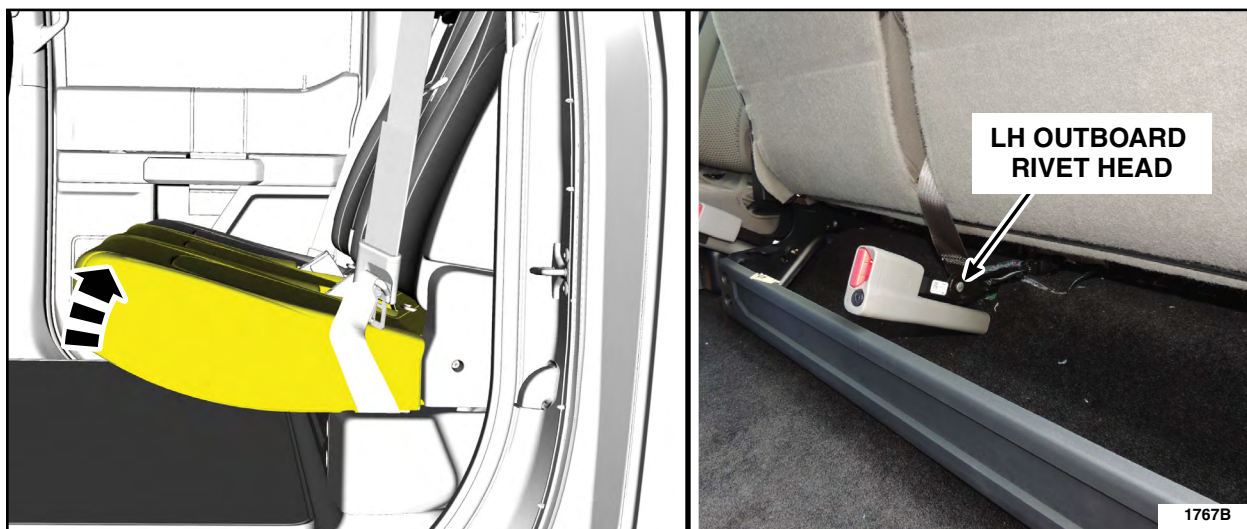

FIGURE 1
1. Position the rear seat cushion up to access the left-hand (LH) rear inflatable seatbelt buckle assembly. See Figure 1.